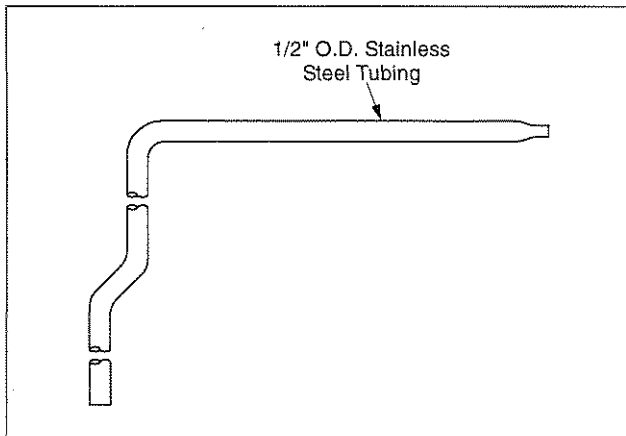

Figure 10. LN₂ Discharge Tube Assembly
3. Connect the LN₂ discharge tube (preformed length of 1/2 in. OD perforated stainless steel tubing, refer to Figure 10) to the LN₂ extension tube:
3. Connect the LN₂ discharge tube (preformed length of 1/2 in. OD perforated stainless steel tubing, refer to Figure 10 on page 5) to the LN₂ extension tube: